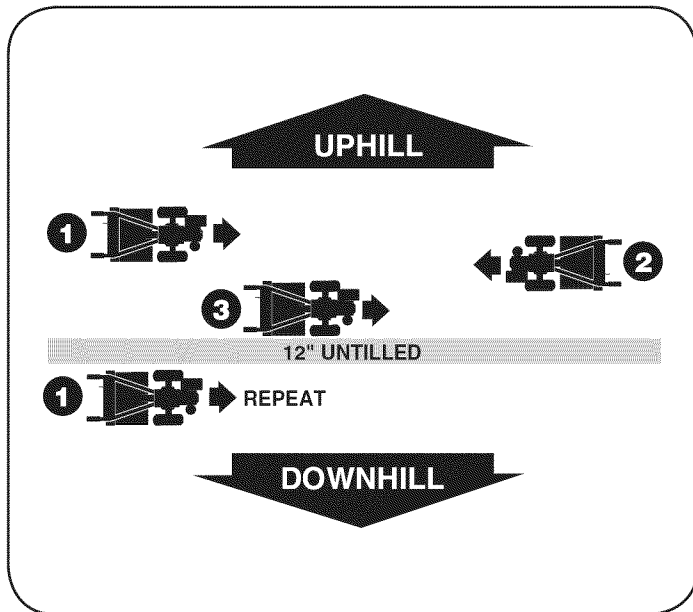

Figure 19
1. To create a terrace, start at the top of the slope and work down. Go back and forth across the first row. See Figure 19.